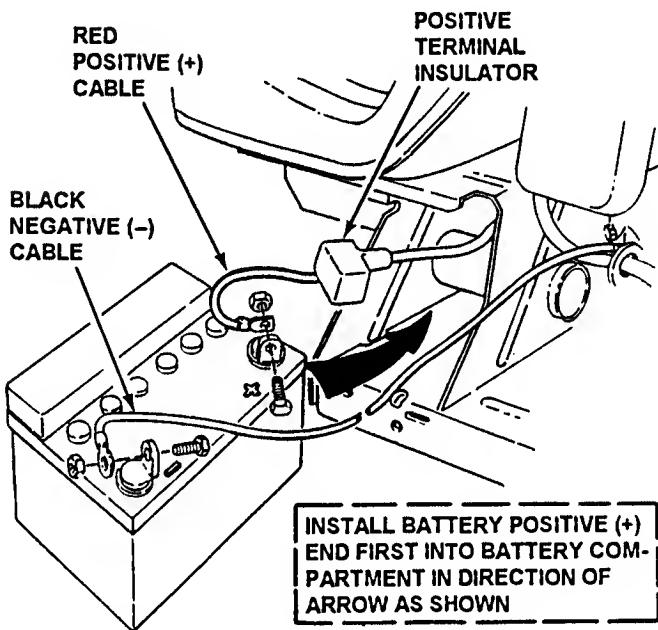

FIGURE 4.27
4. Observe and note cable positions on battery. See Figure 4.27.
Cables must be connected to battery terminals in the proper position as shown in Figure 4.27. Never attempt to charge battery while installed on the Rear Engine Rider. Never use "BOOST" chargers on the battery.